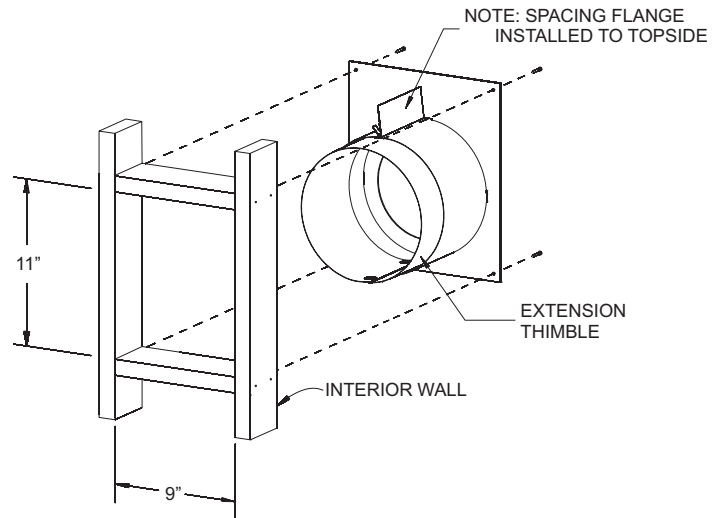

Figure 1
2. Cut hole in wall for wall thimble/firestop assembly (Figure 1) into your combustible wall. Note: On brick or block exterior wall a 7" (178mm) diameter hole needs to be cut. Measure the total wall thickness to determine whether or not the extension thimble is to be used. If the combustible wall depth is over 5 3/8" (137mm), then the extension thimble should be used (Figure 1).
3. Install the wall thimble assembly through the framed opening so the firestop plate is on the interior wall (Figure 1). Telescope section should extend all the way through the exterior wall. Attach with (4) 10 x 1" screws.